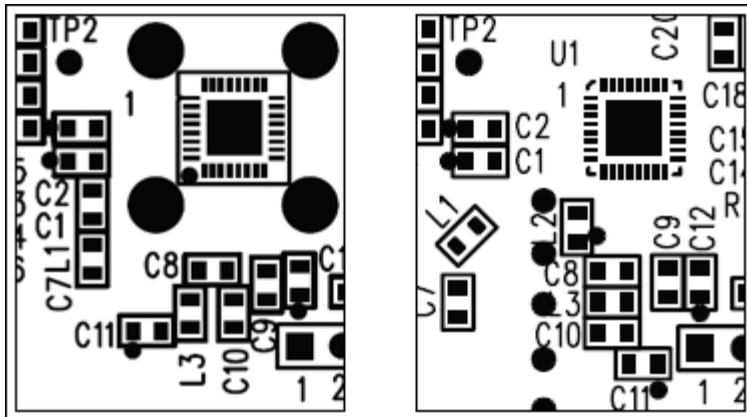

Figure 2. Two different PCB layouts are shown, one with poor component orientation (L1 and L3) and the other, preferable orientation.
An optimal orientation positions circuit B so the plane of its current loop is parallel to the field lines of circuit A. To accomplish this goal, orient the inductors orthogonally whenever possible. Consider, for example, the circuit board of an evaluation (EV) kit (MAX7042EVKIT) for a low-power FSK superheterodyne receiver (**Figure 2**). Because the three inductors on this board (L3, L1, and L2) are in proximity, they are oriented at  $0^\circ$ ,  $45^\circ$ , and  $90^\circ$  to minimize their mutual inductance.